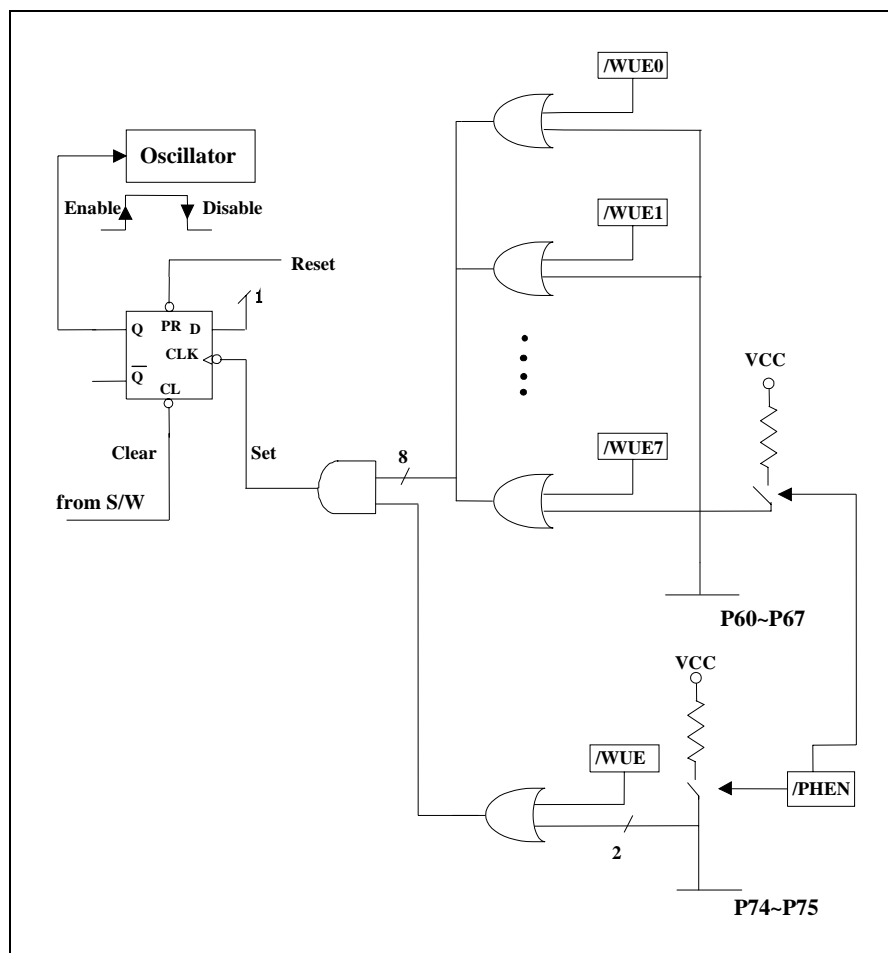

Figure 4-4 Block Diagram Showing Sleep Mode and Wake-up Circuits on I/O Ports
Bit 4 (SLPC): This bit is set by hardware at the low level trigger of the wake-up signal and is cleared by software. SLPC is used to control the oscillator operation. The oscillator is disabled (oscillator is stopped, and the controller enters into Sleep 2 mode) on the high-to-low transition and is enabled (controller is awakened from Sleep 2 mode) on the low-to-high transition. In order to ensure a stable oscillator output, once the oscillator is enabled again, there should be a delay for approximately 18ms¹ (oscillator start-up timer (OST)) before the next instruction of the program is executed. The OST is always activated by a wake-up event from Sleep mode regardless whether the Code Option bit ENWDT status is "0" or otherwise. After waking up, the WDT is enabled if the Code Option ENWDT is "1". The block diagram of Sleep 2 mode and wake-up invoked by an input trigger is depicted in the following figure (Figure 4-4). The SLPC bit can be read and written to.
- 1) Any of the wake-up pins is “0” as illustrated in Figure 4-4 under Section 4.2.5. Upon waking, the controller will continue to execute the next instruction. In this case, before entering Sleep 2 Mode, the wake-up function of the trigger sources (P60~P67 and P74~P75) should be defined (i.e., as input pin) and enabled (i.e., pull-high and wake-up controlled). It should be noted that after waking up, the WDT will be enabled regardless what the Code Option bit ENWDT status is (“0” or “1”). The WDT operation (to be enabled or disabled) should be properly defined in software after waking up. See the Sleep 2 mode details operation in Section 4.5.1.1 below.